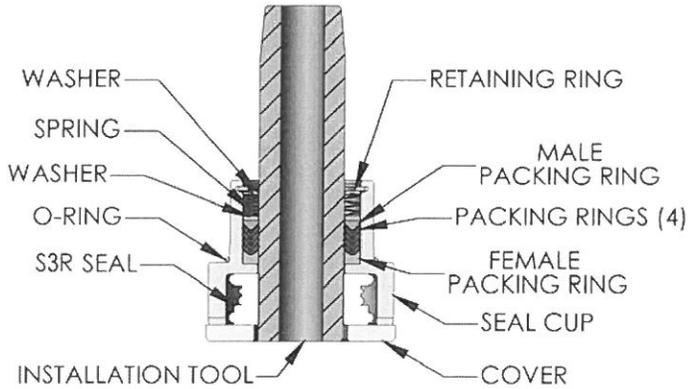

Figure 13b – Seal Cup Assembly
- To install the S3R seal in the seal cup refer to Figures 13b & 13c. Place the S3R seal on the packing installation tool with the upper segment toward the tapered end of the installation tool. Insert the installation tool, with the S3R seal, into the seal cup, with the tapered end toward the packing rings. Place seal cup cover on seal cup and secure with the two short capscrews